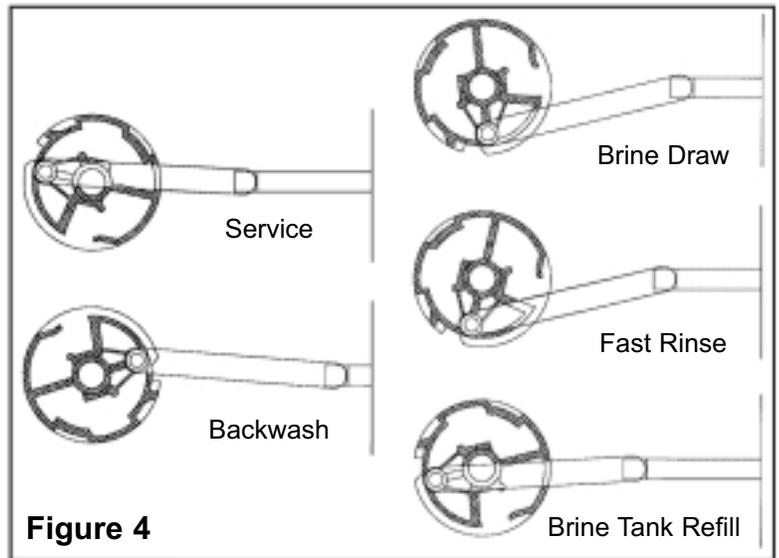
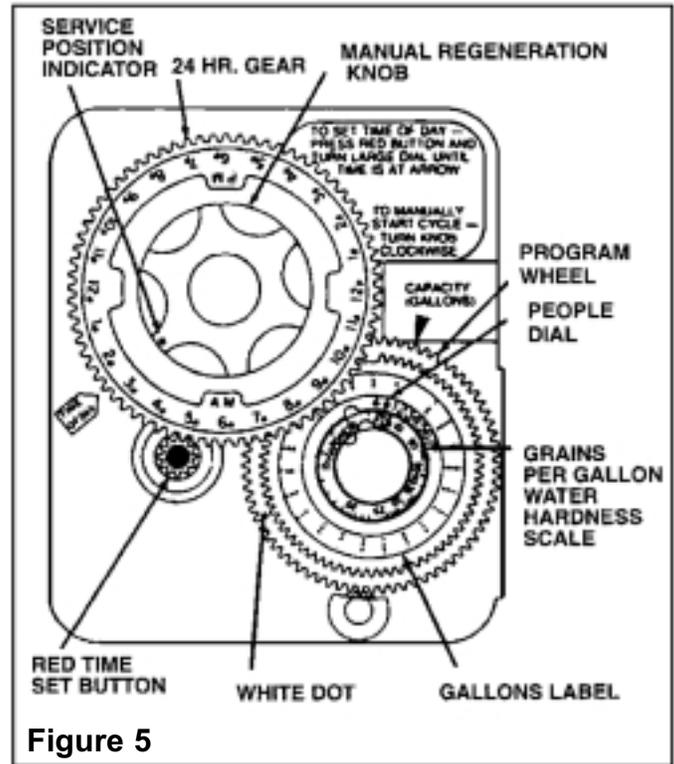

Figure 4
Figure 5
5. Plug the softener in. Manually turn the manual regeneration knob (see Figure 5, page 5) to the backwash position. Slowly turn on the water supply to the valve until all the air clears. Allow the water to run to the drain for 2 to 3 minutes or until the water is clear.
6. Optional (Skip to step 8 if disinfection is not desired) - We recommend that all new water softeners be disinfected prior to start up. Disinfection can be achieved by the application of chlorine (household bleach). Manually turn the knob to the start of the BRINE REFILL position. The correct amount of water will be automatically metered through the air check tube in the brine well into the brine tank. Add one (1) teaspoon of chlorine (household bleach) to the brine tank and mix the chlorine and water solution. Turn the knob, advancing the valve to the BRINE/RINSE position. Plug the softener in and the valve will automatically return to the SERVICE position.
7. **2510 Valve Only (FE30MI & STFE30MI) -** Manually turn the Manual Regeneration Knob on the inner timer slowly through backwash, brine draw, fast rinse to the Brine Tank Refill cycle (see Figure 5, page 5). Once in the Brine Tank Refill cycle, allow valve to fill tank automatically. The correct amount of water is automatically metered into the air check tube in the movement of the piston gear on the valve (see Figure 4). These cycles are as follows: